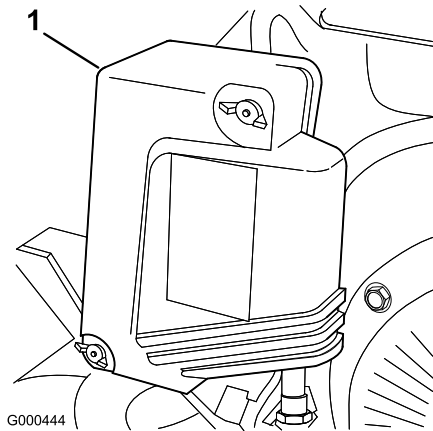

Figure 22
2. Remove wing nuts securing air cleaner cover to air cleaner and remove cover. Clean cover thoroughly (Figure 22).